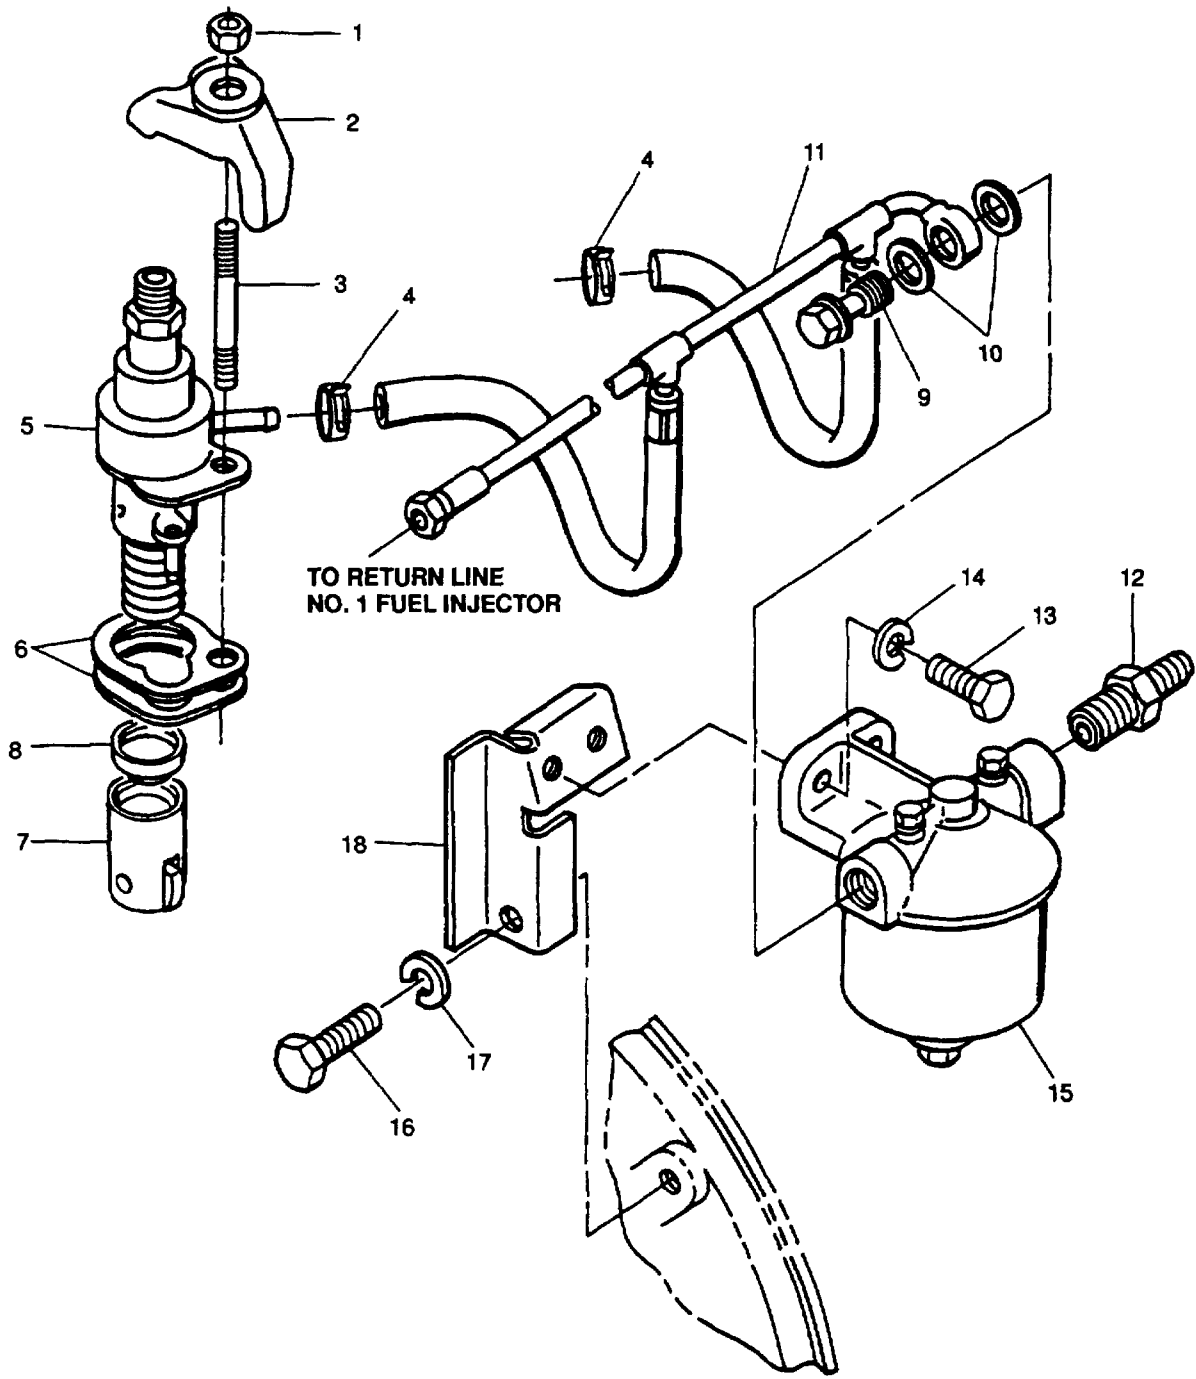

FIGURE 3-7. Fuel Injection Pump, Fuel Filter, and Supply Lines
- a. Loosen damp (4, FIGURE 3-7) and disconnect fuel supply line (11) from fuel injector pump (5).
- c. Remove fuel injector pipe between pump (5, FIGURE 3-7) and fuel injector. Refer to paragraph 3-18.
- e. Remove nut (1) and damp (2) securing fuel injection pump (5).
- f. Lift fuel injection pump (5) out of crankcase and remove shim pack (6). Tag them as to which cylinder they came from.
- g. If necessary, remove thrust cup (8) and tappet (7) from crankcase using magnetic pick-up. Tag them as to which cylinder they came from.
- h. If damaged, remove stud (3).
- c. If tappet (7, FIGURE 3-7) and thrust cup (8) were removed, install them as follows:
- (1) Tappet is installed in crankcase using long nosed pliers held open against top inside edge of tappet recess.
- (2) Submerge tappet in dean engine lubricating oil (MIL-L-2104).
- (3) Insert tappet in crankcase with longer slot facing outward to ensure it is correctly located over tappet stud. Refer to FIGURE 3-8. Install thrust cup (8, FIGURE 3-7).
- g. If removed, install stud (3, FIGURE 3-7).
- h. Install correct original shim pack (6) on fuel pump (5).
- (1) Do not remove or add to original shims installed between pump flange and steel plate.
- (2) Use extreme care to ensure that individual shim packs are installed between each fuel pump plate and crankcase and that they are retained with their original respective cylinder.
- (3) Shims are available in three sizes and are color coded. Refer to TABLE 3-3.
- a. Loosen clamps (4, FIGURE 3-7) and disconnect supply hoses of fuel line (11) from fuel injection pumps (5).
- b. Disconnect fuel return hose from fuel supply line (11).
- c. Remove swivel union plug (9) securing fuel line (11) to fuel filter (15); remove fuel line (11) and two seals (10). Discard seals (10).
- b. Connect fuel line (11, FIGURE 3-7) to fuel filter (15) using two new seals (10) and swivel union plug (9).
- c. Connect supply line (11) hoses to fuel injection pumps (5) and secure with dampers (4).
- d. Connect fuel return line to supply line (11).